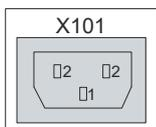

Fig. 3: C6675_voltage socket 100-240 V
The power supply is connected via the IEC socket (X101) on the top of the industrial PC. The assignment includes a protective conductor (1), a neutral conductor (2) and an outer conductor (2) (see Fig. 3).